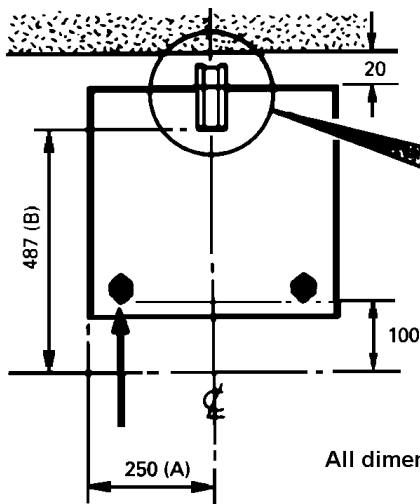
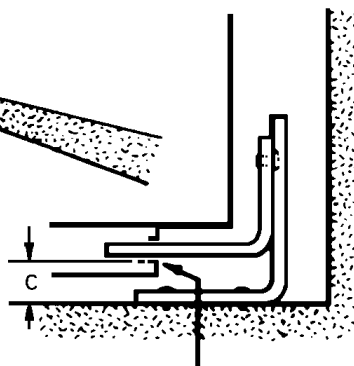

Fig.2a
Fig.2b
2. Mark off 250mm from the left hand side of the appliance as shown (Dimension 'A'), Fig 2a. This is the centre line of the fixing bracket.
3. Draw a line 100mm from the front edge of the levelling feet (see Fig 2a) and remove appliance from its position. Mark off dimension 'B' (see Fig 2a) back from this line on the centre line of the bracket to locate the front edge of the lower bracket. Fix lower bracket (with two fixing holes) to the floor then measure the height from floor level to engagement edge on back of appliance, dimension 'C' of Fig. 2b.
- Reposition appliance and check that top bracket engages into appliance back as shown in Fig. 2b.